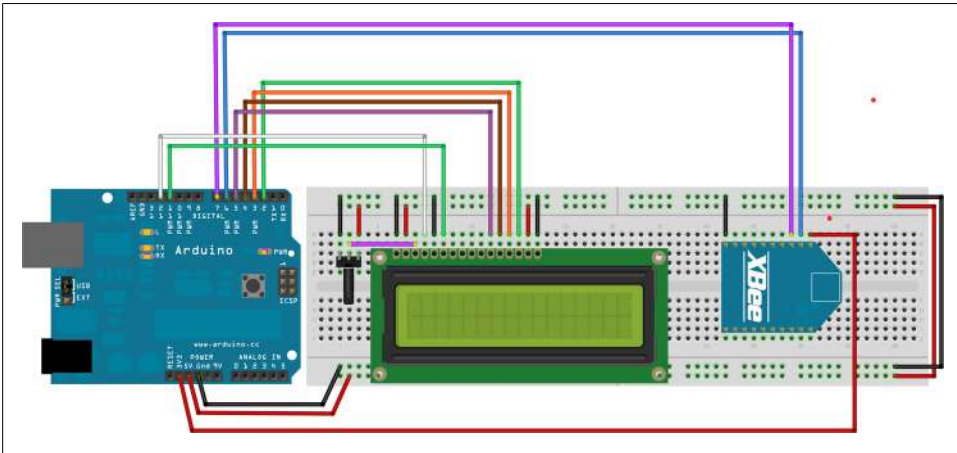

Figure 7-27. Twitter Reader breadboard layout
6. Hook up the remaining LCD pins as shown in Table 7-1. You can also use the diagram in Figure 7-27 and the schematic in Figure 7-28 as a guide.